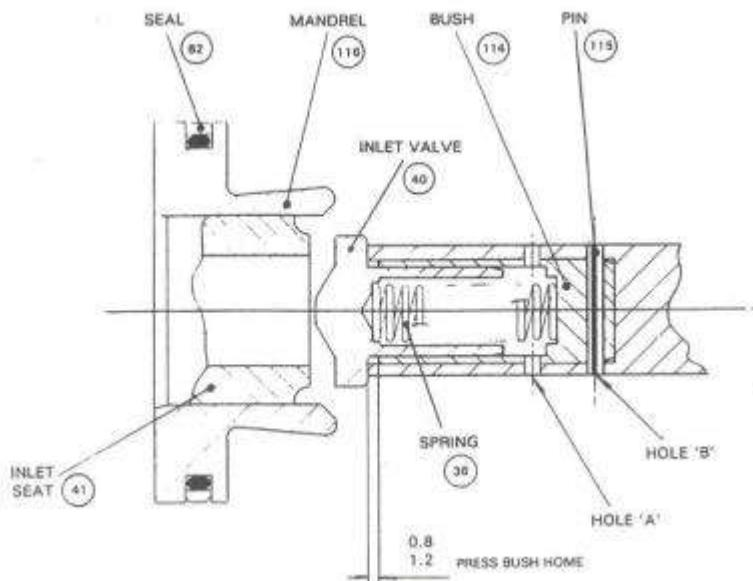
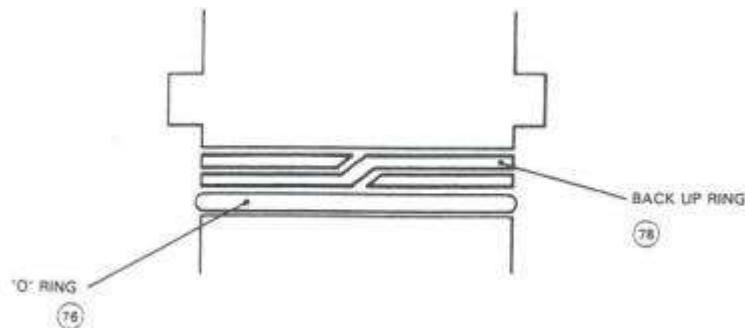

Fig 4.1 Mandrel Assembly
Fig 4.2 Inlet Valve Seat – Back Up Ring and 'O' Ring Fitting
7. During the pump overhaul procedures, reference should be made to the pump component and assembly drawings (Figs 4.1 to 4.6), which include associated parts lists. Also included are assembly drawings of the Mk 2 selector and safety relief valve (Figs 4.7 and 4.8).
8. In the following overhaul procedures, the item number that follows the description of a part refers to the assembly drawings (Figs 4.1 and 4.3 to 4.6).
- 4) Insert a Drift (part no 201-043) into the end of the Mandrel, from delivery end. Tap the end of the Drift to remove Collar (42), Inlet Seat (41), Spring (36), Valve 40, Mandrel Assembly (38) and Diaphragm (37) from the inlet end of the Barrel.
- 5) Pull the Inlet Seat (41) from the Mandrel Assembly (38). Remove Valve (40) and Spring (36).
- 6) Using Extractor (part no 201-082), remove Diaphragm (37) from Mandrel Assembly (38). Inspect the Diaphragm for splits or holes, replace if necessary.
- 7) Inspect Spring (36), replace if necessary.
- 8) Inspect the seating faces of the Valve (40) and Seat (41). If either is badly pitted, chipped or unevenly worn, it must be replaced.
- 9) Inspect the bore of Bush (114).. It should be noted that if the bore is worn it will prevent Valve (40) from shutting smoothly and squarely onto the Seat(41) and must be replaced if necessary. The procedure for replacing the Bush is as follows:
- i. Remove the Pin (115).
- ii. Screw an M12 tap into the Bush (114) until it bottoms.
- iii. Hold end of tap in a vice and gently tap the face of Mandrel (116) with a nylon mallet, until the Bush is removed.
- v. Using a 1.9 mm diameter bit, drill through 6 holes in Mandrel through wall of Bush (see Fig 4.1 - holes A).
- vi. Using a 1.9 mm diameter bit, drill through hole in Mandrel, right through Bush (see Fig 4.1 - holes B).
- vii. Using a flat punch, refit Pin (115) through Mandrel and Bush.
11) Inspect Seal (82 - Fig 4.1). If it is damaged, replace as follows:
12) Place Valve (40) and Spring (36) into Bush (114).
13) With reference to Fig 4.2, fit Back Up Ring (78) and 'O' ring (76) to Seat (41), and grease both. Ensure Back Up Ring is fitted as shown.
14) Push and turn Seat (41) anti-clockwise into the Mandrel Assembly